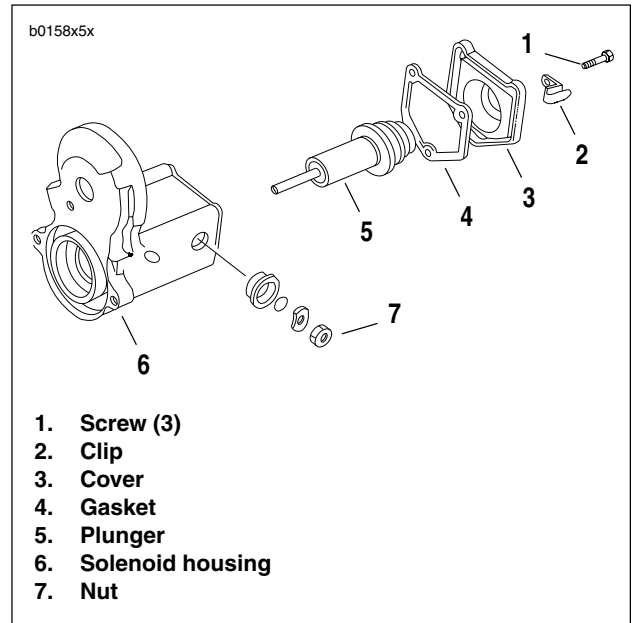

Figure 5-28. Starter Solenoid
See Figure 5-28. Do not tighten nut (7) without removing items (1) through (5). Movement will cause damage to the contact.
1. See Figure 5-28. Remove screws (1) and clip (2).
2. Remove cover (3) and gasket (4). Discard gasket.
3. Remove plunger (5) from solenoid housing (6).
1. See Figure 5-28. Replace wire connection hardware as necessary.
2. Install plunger (5) in solenoid housing (6).
3. Install **new** gasket (4) onto cover (3).
4. Position cover with gasket onto solenoid housing. Install clip (2) and screws (1).